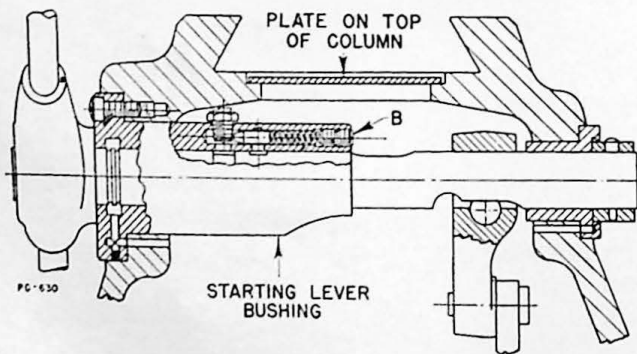

Figure 31
2. Pull overarm forward to uncover plate on top of column, Fig. 31. Remove this plate.
3. Remove first of two $\frac{3}{8}$ " hollow headless set screws in the end of starting lever bushing at "B", Fig. 31.